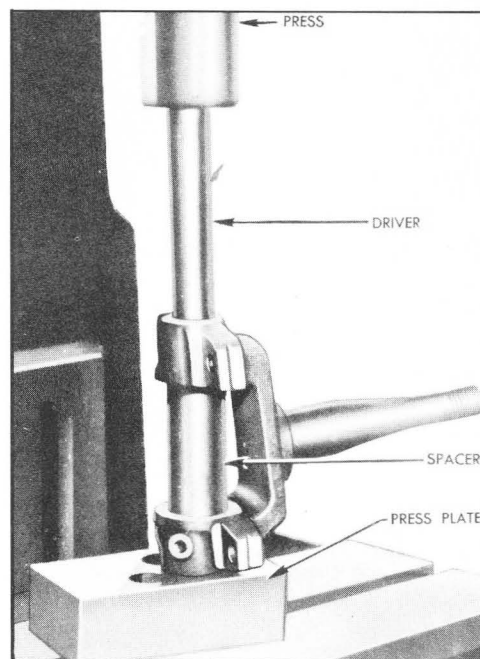

Figure 6-16—Installing Steering Knuckle Bushing
2. With oil hole in bushing in line with hole for grease fittings, and with the short groove on inside of bushing leading toward the expansion plug seat, press new bushing into each arm of steering knuckle, using Driver J 1382-3, Spacer J 722-2, and Press Plate J 1649. See figure 6-16.